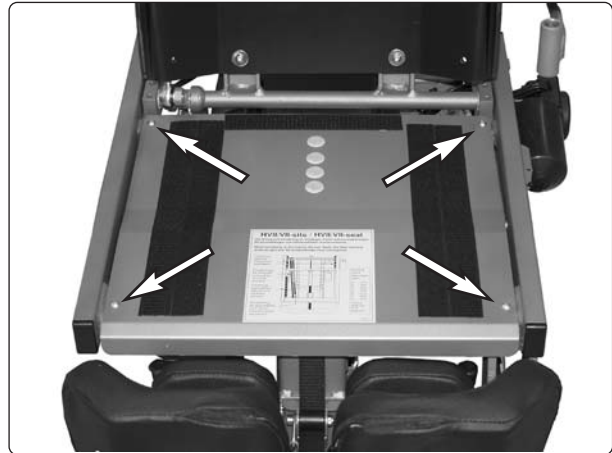

Fig. 17. The seat plates are mounted using four screws.
1. Remove the seat plates. These are mounted using four screws, see Fig. 17.
11. Remount the seat plates. Mount the rear seat plate in the position with the same marking as the bearing brackets, the front bracket of the backrest's actuator and the parallel strut, see Fig. 17.